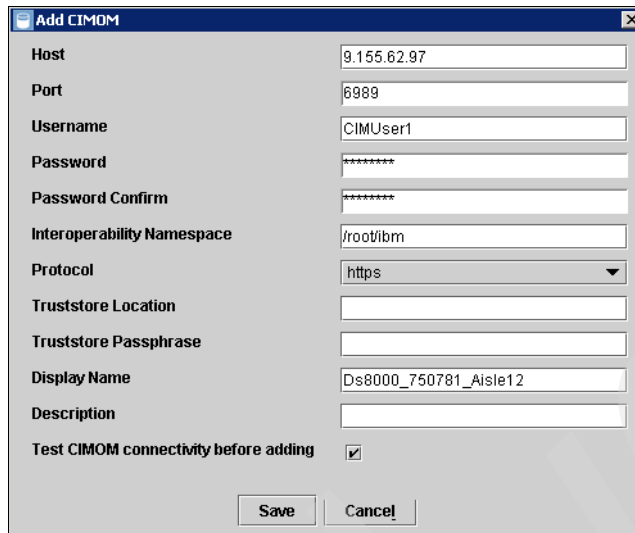

Figure 12-15 Adding a DS8700 CIMOM to TPC
1. From the Navigation Tree section, expand **Administrative Services** → **Data Sources** → **CIMOM Agents** and select **Add CIMOM** (see Figure 12-15).